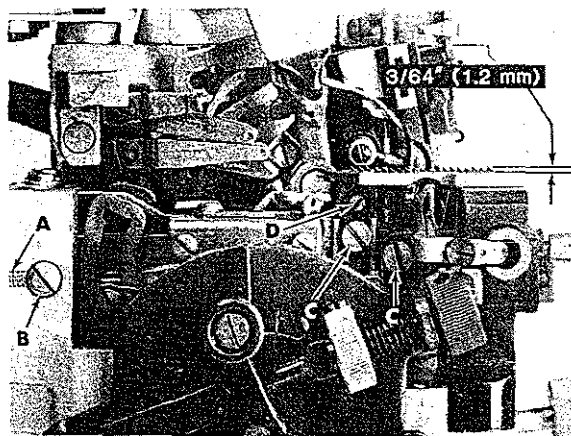

Fig. 14
Rotate handwheel in operating direction until teeth of rising feeds are above the top surface of throat plate. The feeds should be level with the throat plate at this time. With feeds at highest position of travel, their teeth should extend approximately  $\frac{3}{64}$  inch (1.2mm) above throat plate as shown in Fig. 14.
Loosen lock screw (A, Fig. 14) and rotate tilt adjusting pin (B) as required to level feeds, then tighten lock screw (A).
Loosen feed attaching screws (C) and adjust feeds up or down to obtain proper height above throat plate as shown in Fig. 14, then tighten screws (C).